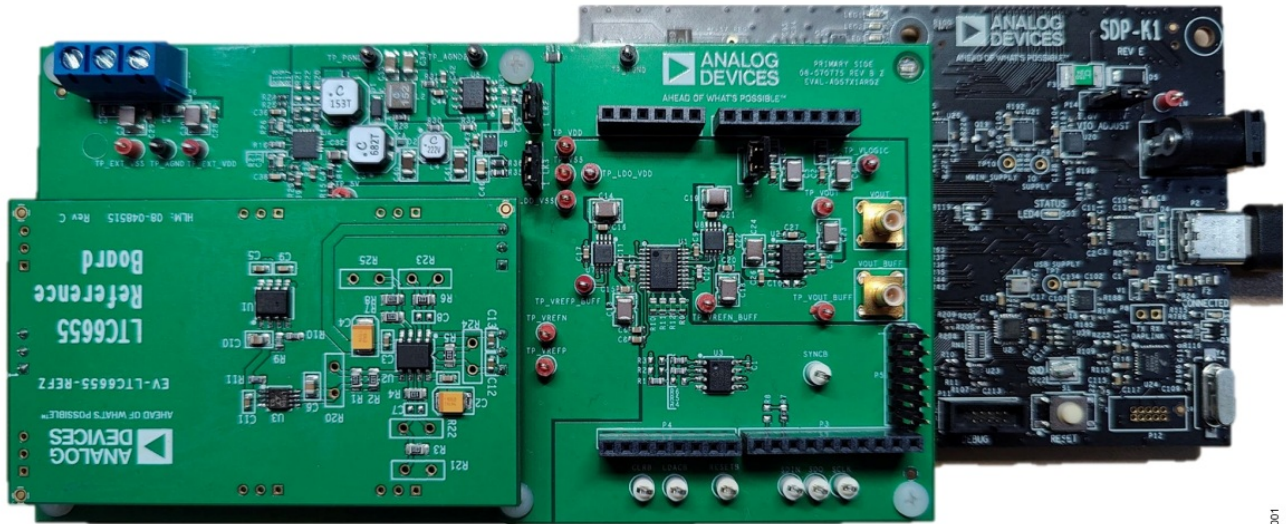

Figure 1. The EVAL-AD5781ARDZ Connected to the SDP-K1 Controller Board
- **Initial Setup:** Connect the EVAL-AD5781ARDZ or EVAL-AD5791ARDZ to the SDP-K1 controller board as shown in Figure 1.